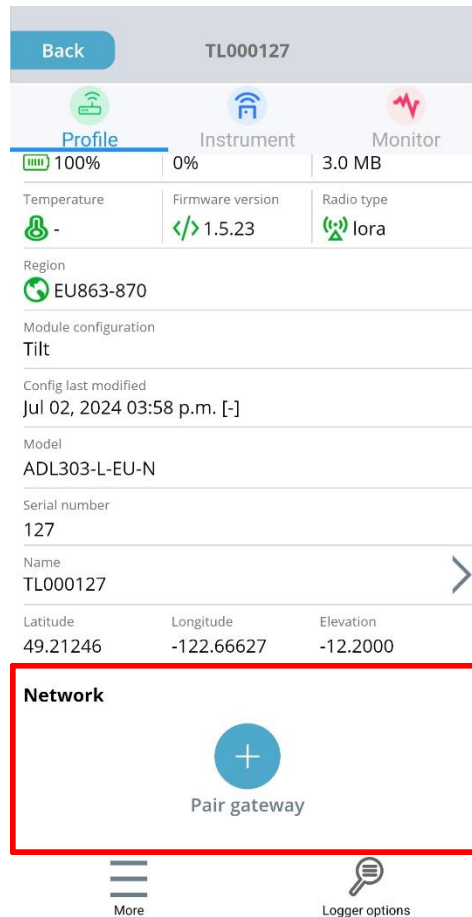
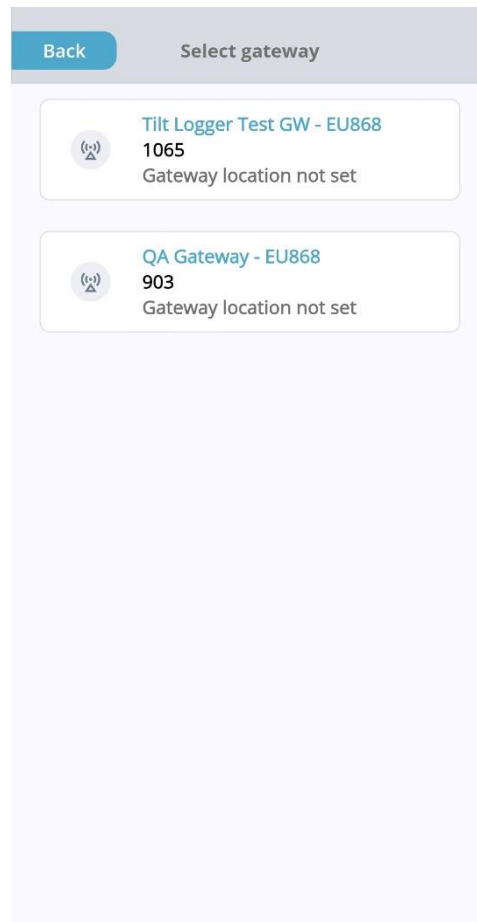

Figure 9: Pair Gateway Selection
Figure 10: Select Gateway Menu
1. Select Pair Gateway from the Main Dashboard (see Figure 9). The Select Gateway menu appears (see Figure 10).